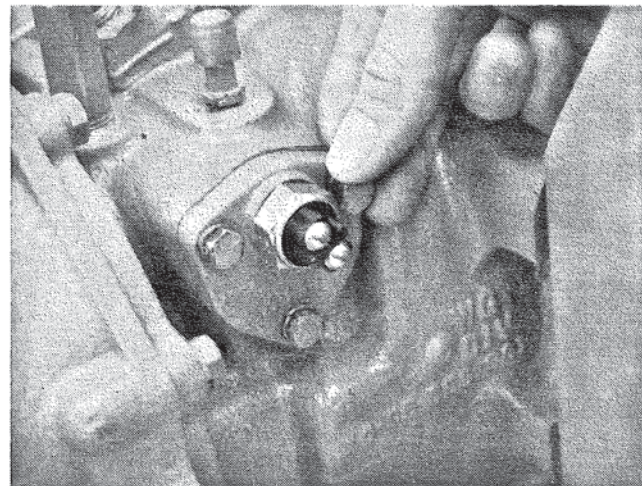

Figure 98. Neutral Switch Correctly Assembled.
4. Assemble valve cover and neutral switch with neutral switch located between two (2) top 1/4-20 bolts. Figure 98. Use the three (3) 1/4 - 20-7/8 in. long hex head bolts provided in neutral switch kit. Tighten bolts to recommended torque of 8 - 11 ft. lbs. (1.10 - 1.52 kg/m) and assemble starter solenoid wires to switch.